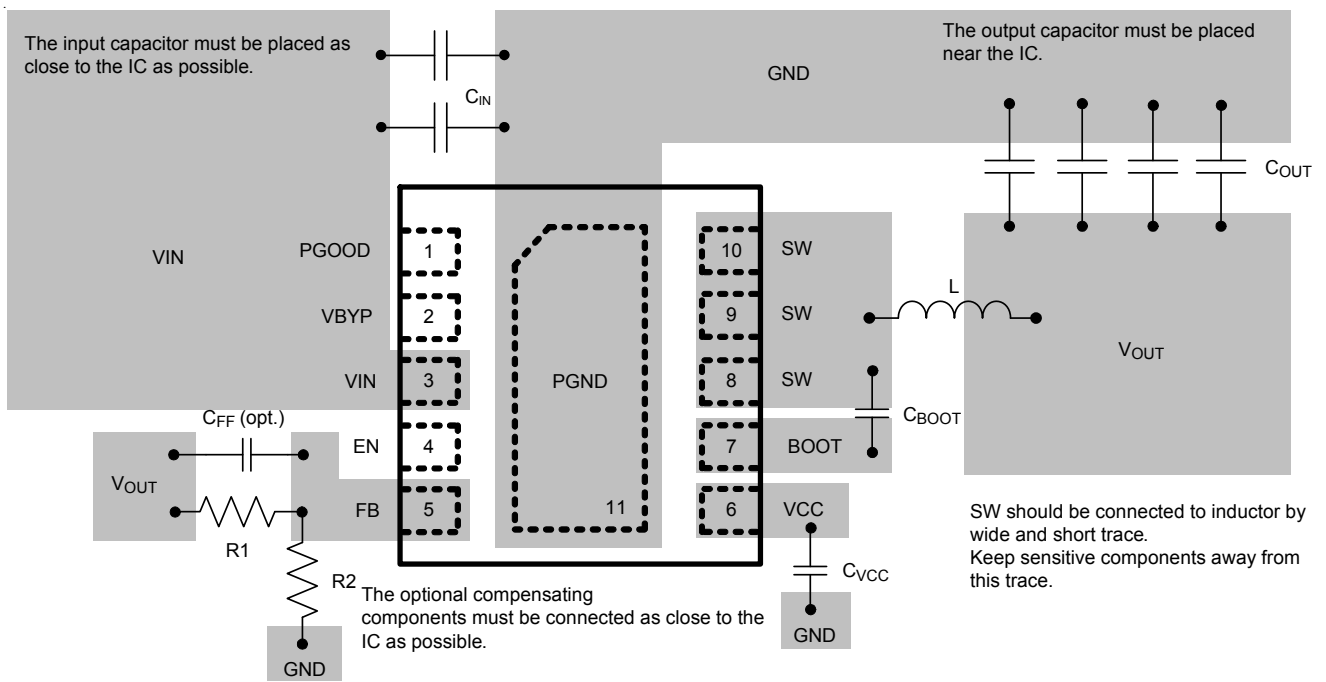

Figure 7. PCB Layout Guide
- ▶ Avoid using vias in the power path connections that have switched currents (from C_{IN} to PGND and C_{IN} to V_{IN}) and the switching node (SW).
- ▶ An example of PCB layout guide is shown in Figure 7 for reference.